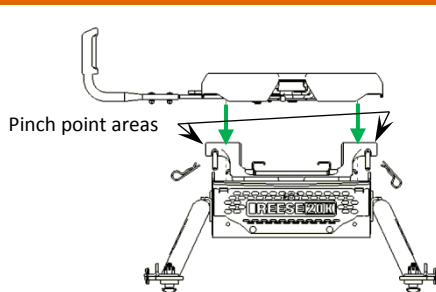

FIG. 5
**CAUTION:** Avoid putting any body parts in pinch point areas (Fig 5)